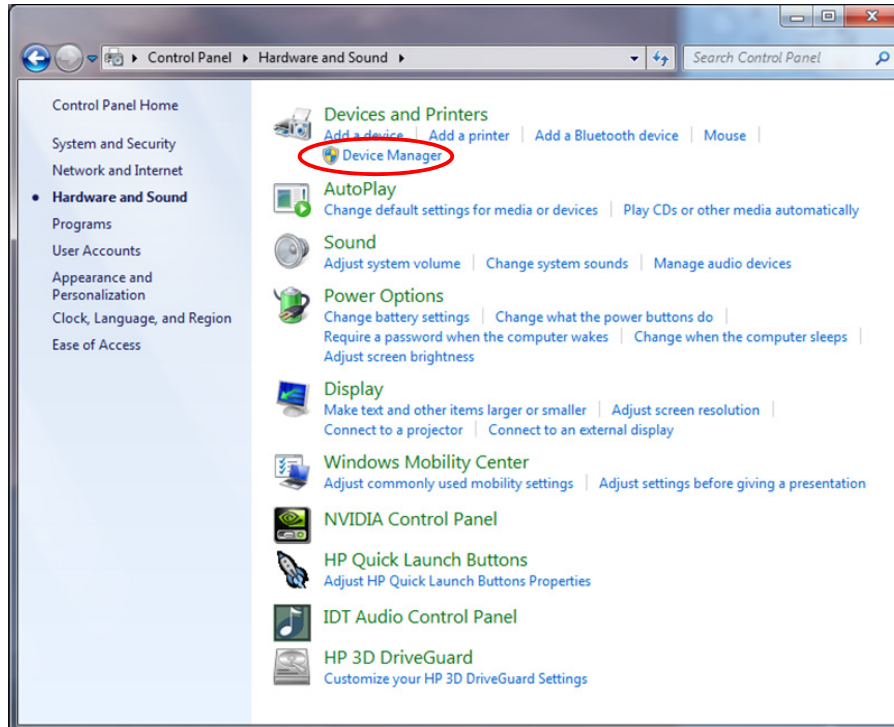
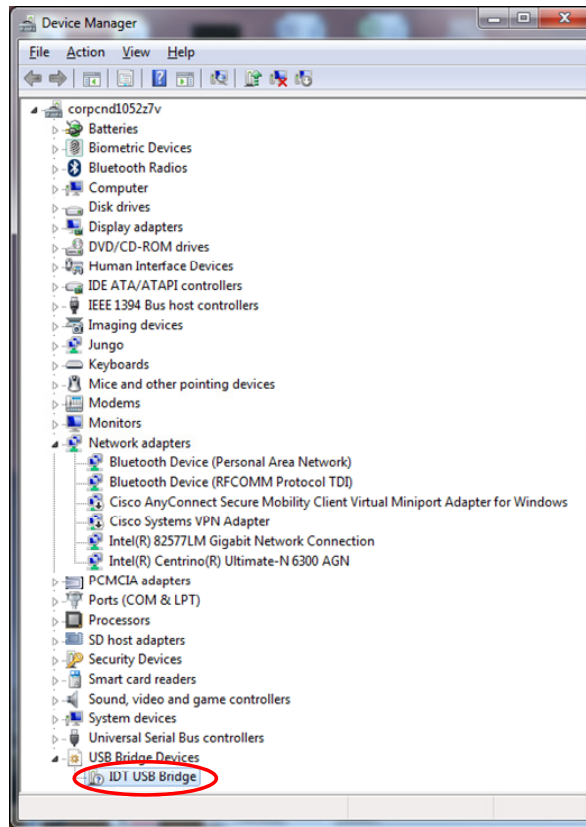
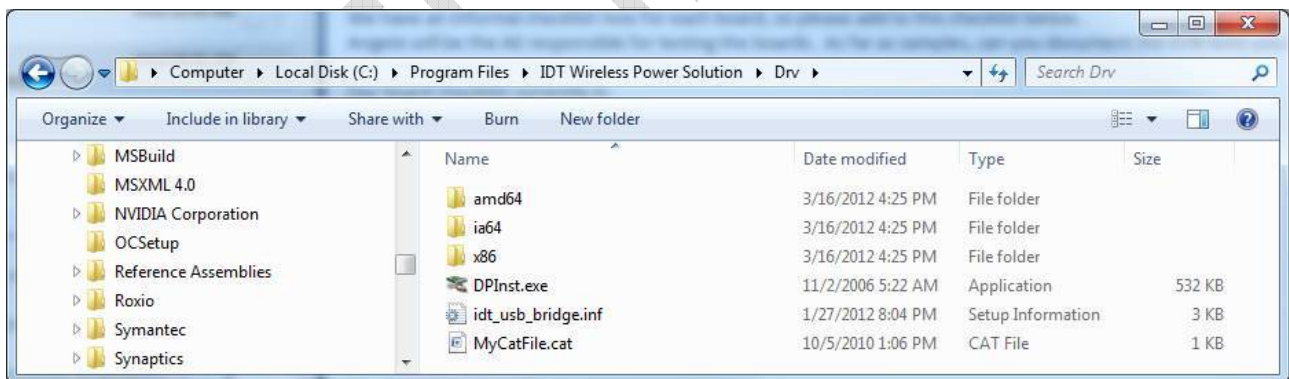

Figure 9. Checking the revision of the driver using Device Manager, shown is a Win7 PC.
Figure 10. Checking the revision of the driver in Device Manager.
Figure 12. Installed Device Driver Directory.
5. **Update the Driver.** If you have a previous version of the eval tool, the driver will probably need to be updated. The way to check on the version of the driver is to open up the Device Manager as shown in Figure 9. Expand the USB Bridge Devices and double click on it. Click on the Driver Tab, and be sure its' Driver Date is 7/5/2009 and Version is 7.0.0.0. See Figure 10 and 11. If it is not version 7.0.0.0 then go to directory C:\Program Files\IDT Wireless Power Solution\Drv as shown in Figure 12 and double click the DPInst.exe file. The system will then go through a driver update install. Be sure to reboot your machine once the install is complete.